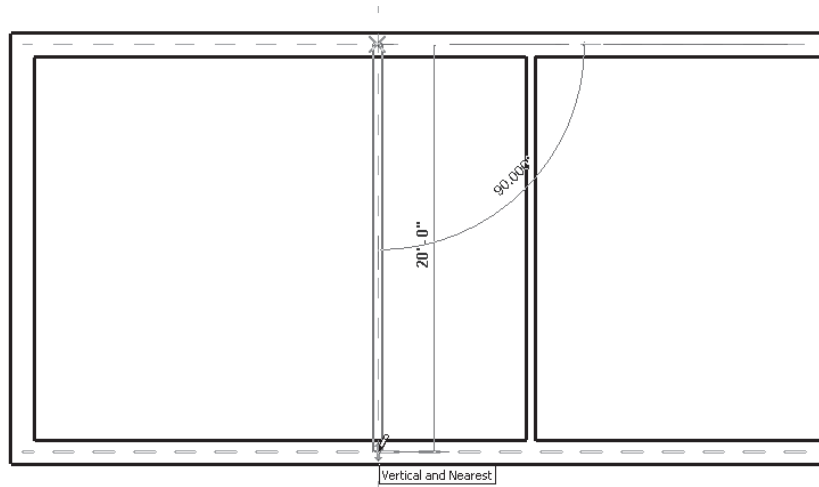

Figure 3-55 Sketching the second interior wall
2. Press SHIFT and move the cursor downward. The cursor moves parallel to the vertical axis. Click near the lower external wall when the **Vertical and Nearest** symbol appears, as shown in Figure 3-55.